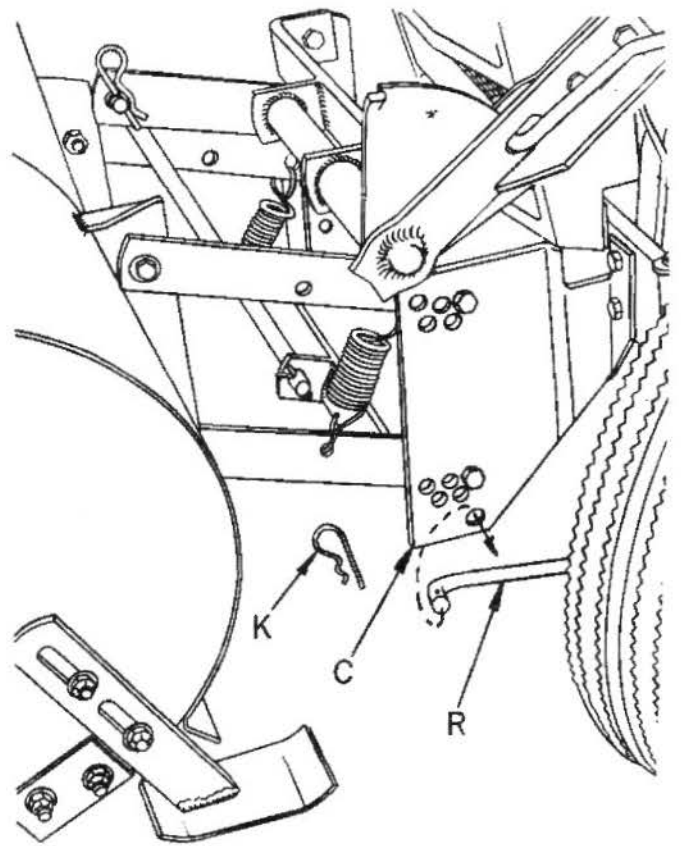

FIG. 8
13. Refer to Fig. 8. Assemble L.H. push rod (R) to hanger bracket L.H. (C) as shown and secure with spring retainer (K).